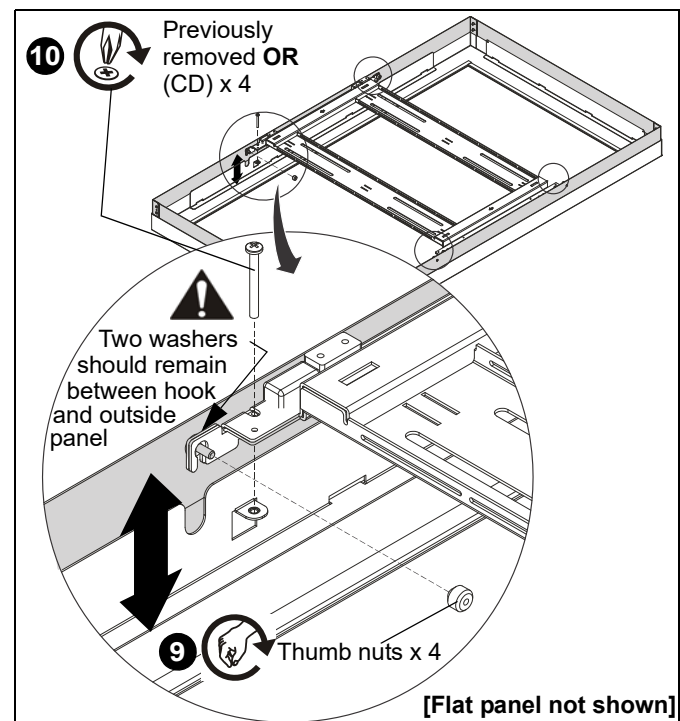

Figure 9
**NOTE:** The outer frame depth may be adjusted between 3" - 5" to make room for a variety of different flat panel thicknesses. (See Figure 9)
- The 4 Phillips screws removed in Step 1 can be replaced with four 10-24 x 2-3/4" Phillips screws (CD) for larger depth adjustments.
9. Tighten thumb nuts over threaded studs in four locations on the hinged frame. (See Figure 9)
10. Replace and fasten four Phillips screws which were removed in Step 1, **OR** replace the removed screws with four 10-24 x 2-3/4" Phillips head screws (CD) to allow for a larger depth adjustment of the outer frame. (See Figure 9)